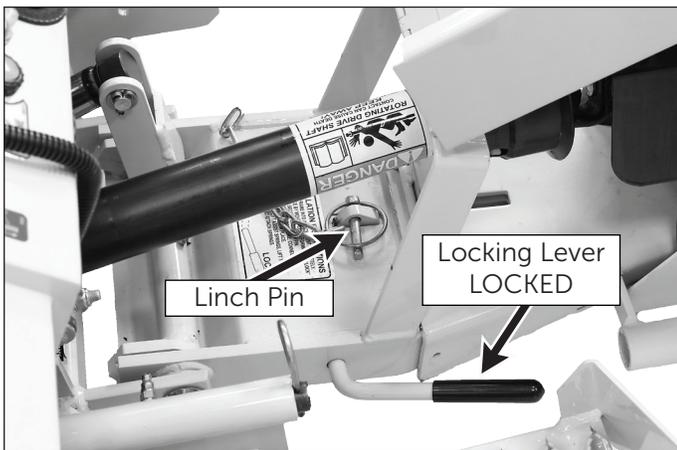

Figure 2.5: Hitch Lock Lever in "LOCKED" Position
- **Locking:** Rotate the hitch lock lever **fully forward** to the **LOCKED** position as shown in Figure 2.5, and secure the hitch latch with the linch pin.